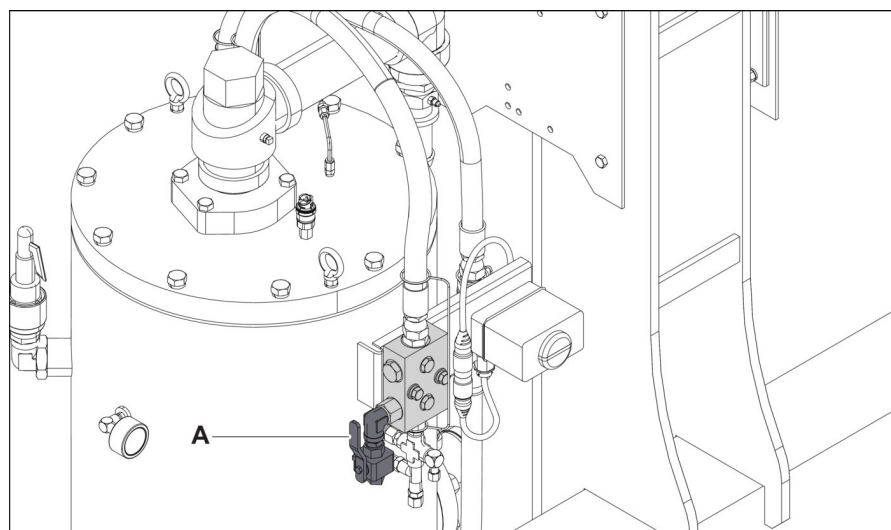

Figure 2
5. Open the manual blowdown ball valve (Figure 2, item A) at the receiver tank to release the pressure in the system.